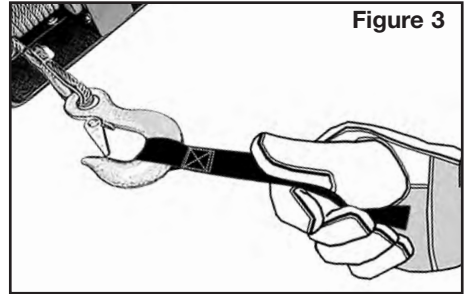

Figure 3
7. USE HEAVY LEATHER GLOVES when handling wire rope. DO NOT LET WIRE ROPE SLIDE THROUGH YOUR GLOVED OR UNGLOVED HANDS. ALWAYS USE THE HAND-SAVER STRAP when guiding the wire rope in or out. (Figure 3)
1. KEEP A TIGHTLY WOUND WIRE ROPE DRUM. Keep the wire rope tightly and evenly wound on the drum all the time. Do not allow the wire rope to become loosely wound. A loosely wound drum allows a wire rope under load to work its way down into the layers of wire rope on the drum. When this happens, the wire rope may become wedged within the body of the windings damaging the wire rope. A good practice is to rewind the wire rope under tension after each use. Apply tension using hand saver strap (Figure 3) and ALWAYS wear gloves.